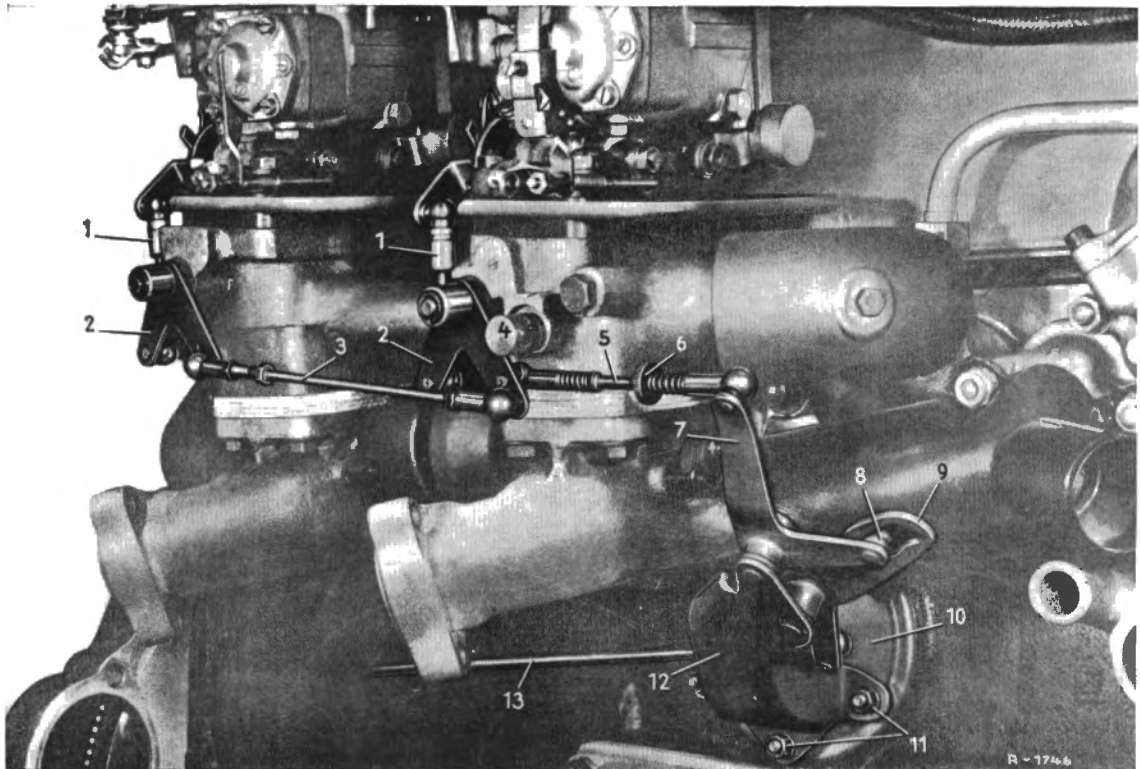

Fig. 00-13/4
- Adjust the spring-loaded push rods (8) or (1).
On engines without progressive linkage adjust the eccentric screw (3) in such a way that the slot of the eccentric screw is at right angles to the front relay lever and the eccentric part points upward (see Figs. 00-13/2 or 00-13/3).
On engines with progressive linkage screw in a fillister head screw M 8 DIN 85 (4) with a 16 mm head. If this should not be available, make an M 8 screw with a 16 mm ϕ cylindrical head (4) (see Fig. 00-13/4).
In the case of the progressive linkage the quadrant lever (9) serves as a stop so that a stop bolt on the intake pipe is no longer required (Fig. 00-13/4).